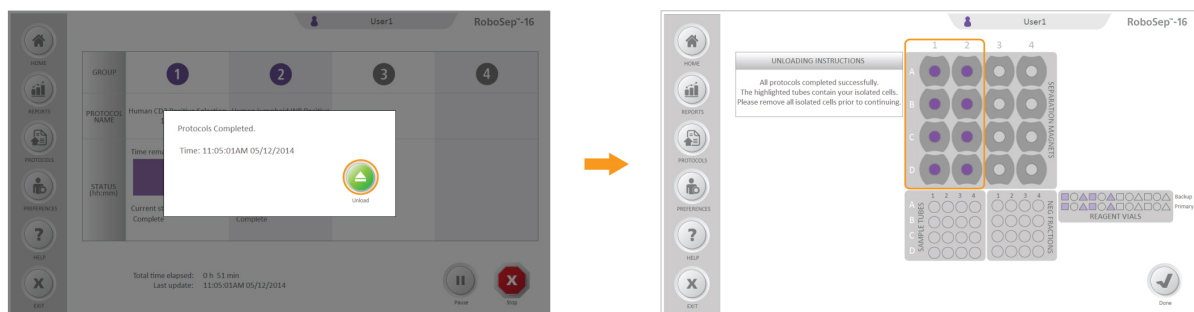

Figure 18. Collecting Isolated Cells. The isolated cells are located in the tubes highlighted in dark purple under each protocol group of the Unloading screen.
1. Select  [Unload] from the Completed dialog box (Figure 18).
3. The tubes containing the isolated cells are indicated on the Unloading screen (Figure 18) in dark purple.